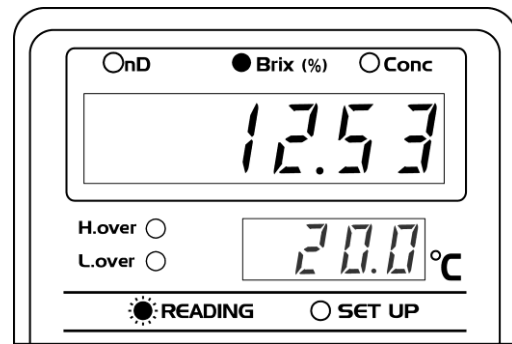

Fig. 10-4
(3) Change from Brix Mode to nD
- ① During measurement, the **READING** light blinks, and the display will show Brix (%) readings (Fig. 10-4).
(4) Change from Brix Mode to Conc